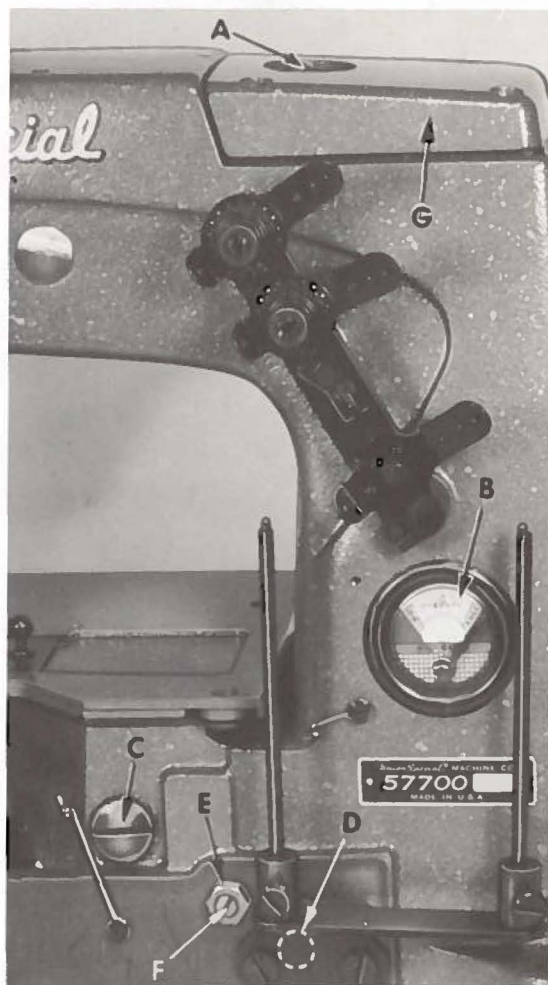

Fig. 2
Use a straight mineral oil of a Saybolt viscosity of 90 to 125 seconds at 100° Fahrenheit in the main reservoir. This is equivalent to Union Special specification No. 175. Fill main reservoir at plug screw in upper crank chamber cover (A, Fig. 2) and check oil level at gauge (B). Oil is at maximum level when needle is in yellow band marked "Full". Oil should be added when needle is in yellow band marked "Low".
Oil may be drained from main reservoir by removing plug screw (C, Fig. 2) located below the cloth plate at front of the machine.
2. Remove the oil reservoir plug screw (C, Fig. 2) and tip machine forward to drain oil from the reservoir.
5. Fill main reservoir to a level even with the bottom contour of the knee press shaft bushing (D, Fig. 2).
6. Loosen lock nut (E) on calibrating screw (F), and turn the screw to the left or right until the gauge needle rests in the middle of the yellow band marked "LOW".
7. Tighten lock nut (E) and replace plug screw (C).
Remove the head cover and upper crank chamber cover (G, Fig. 2). Check position of needle lever bearing oiler (A, Fig. 3) located inside the arm casting, below the upper crank chamber cover, which lubricates the needle lever stud (B). Make sure it is tilted downwardly and that its delivery end (C) contacts the inside wall of the bed casting at the back, just above the notch of the needle lever shaft stop collar. (Do not allow the oiler to rest on the needle lever). Allow $1/64$ inch clearance as in Fig. 3.